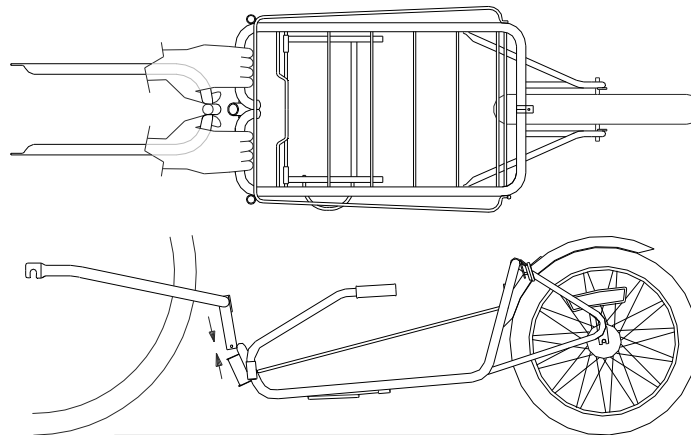

Figure. 8 Attaching Maya Cycle trailer to the fork with the kickstand up
- With the kickstand up and little or no cargo, stand over the back wheel of the bicycle, facing the trailer. Attach the Maya Cycle trailer to the fork using your hands as shown in Figure 8.